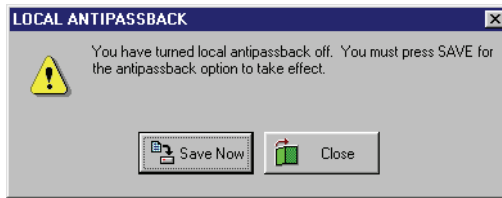

Figure 2-13: Disabling Local Anti Passback
1. To disable APB, click in the APB ON check box. The check mark that was there disappears and the following window appears (see Figure 2-13).